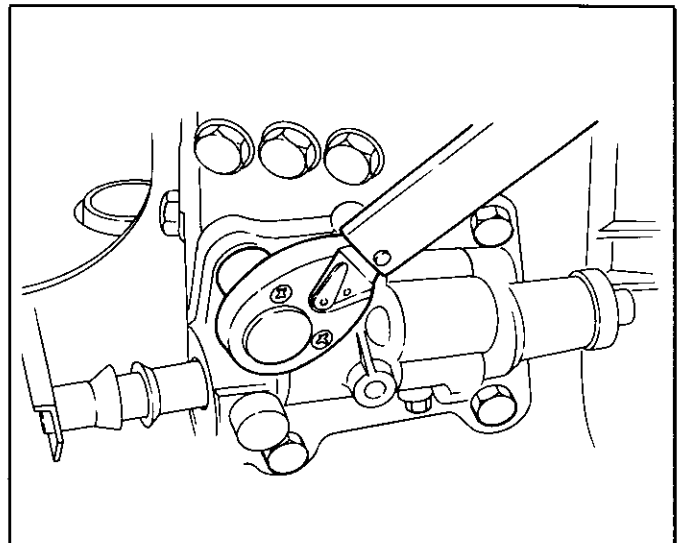

Figure 9 Control Box
3. Remove the control box assembly together with four bolts from the transaxle case (Figure 9).